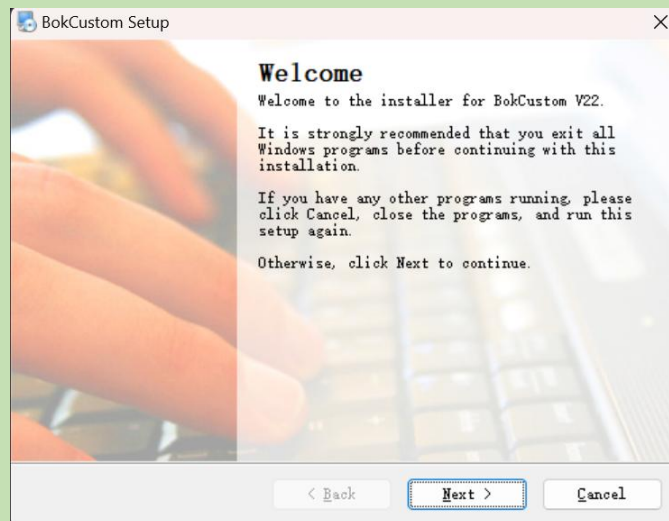

Figure 1-4
2. Click “Next” (as shown in Figure 1-4)